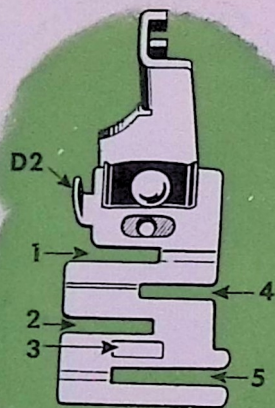

Fig. 52. The Edge Stitcher
The distance from line of stitching to edge of material in slots is regulated by moving lug **D2**, **Fig. 52** to right or left.
1. Insert one of laces in slot **1** of edge stitcher and the other in slot **4**, **Fig. 52**.
2. Insert piping with its folded edge to left in slot **3** and edge to be piped in slot **4**, **Fig. 52**.
1. Place garment under edge stitcher and tape in slot **1** or **4**, **Fig. 52**.
2. Insert the edge in slot 5, **Fig. 52**, and adjust lug **D2** to stitch as close to the edge as desired.